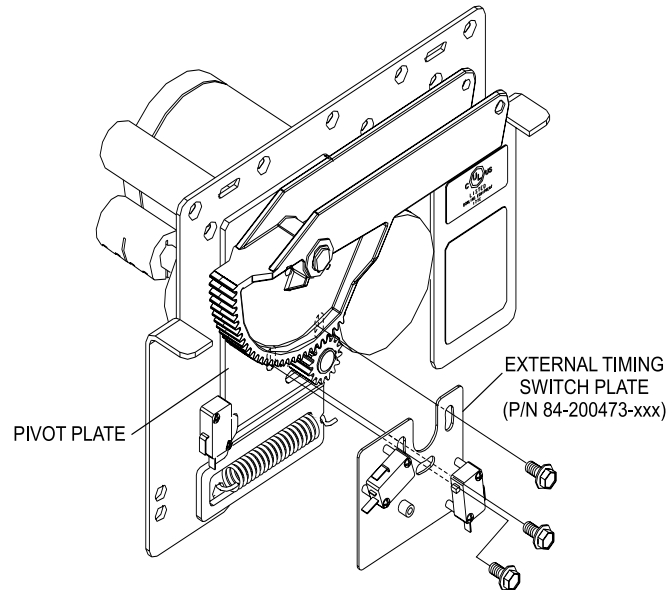

Figure 6
- Reuse the screws removed in step 5 to install the left-hand and right-hand External Timing Switch Plate (P/N 84-200473-xxx). Align the edges of the switch plate with the edges of the pivot plate. Refer to *Figure 6*.